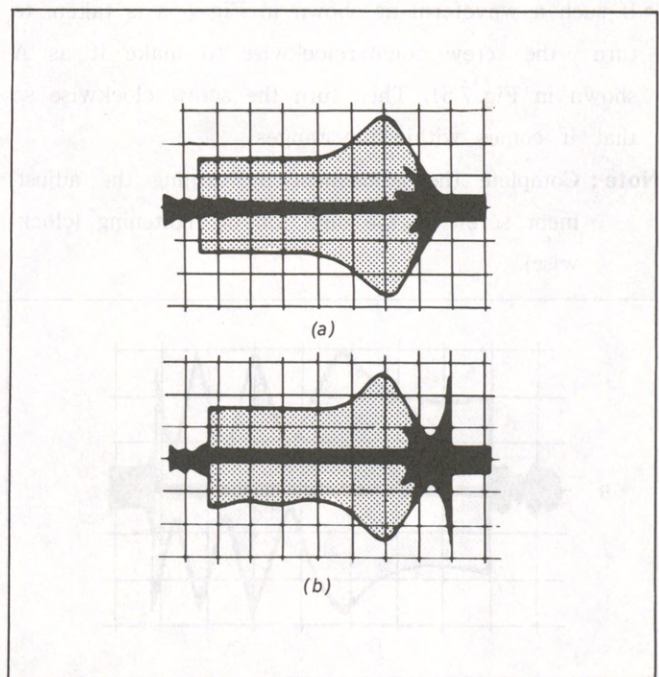

Fig. 7-53.
- 5) At the time, confirm if the free exit waveform can be taken within the ranges shown in (a) and (b) in Fig. 7-53.